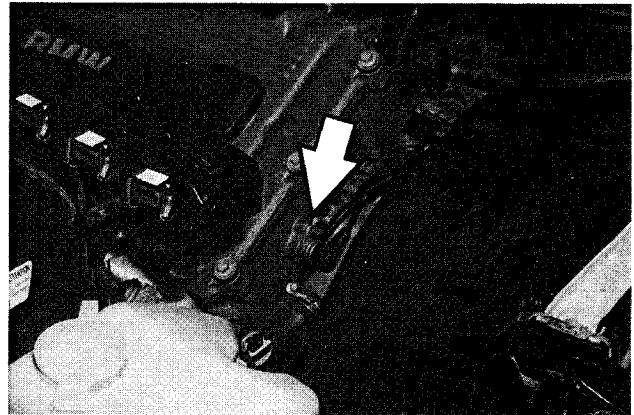

Fig. 11. Camshaft position sensor mounting bolt (arrow). M42 engine shown.
1. Remove CMP sensor from top timing cover, just above coolant thermostat housing. See Fig. 11.